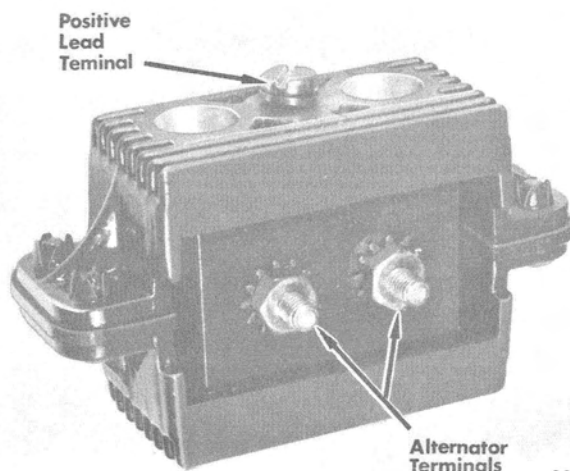

Figure 2. Testing Positive Diode
1. Connect small red test lead to either alternator terminal and connect black lead to positive terminal of rectifier. (Figure 2) Meter pointer should move to right of Scale No. 3.